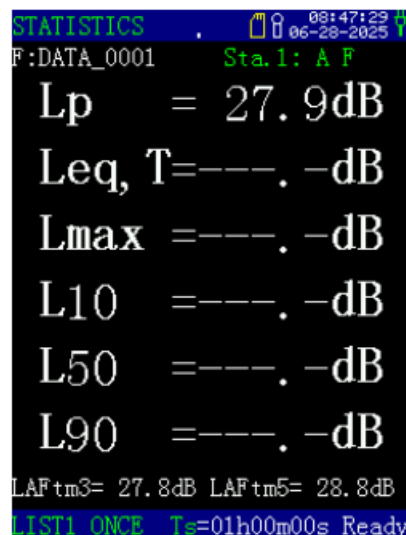

Figure 7.3 Statistics LIST1
- Under "List 1" The measurement indicators include Linst, Leq,T, Lmax, Lmin, L10, and L50, L90, shown in Figure 7.3.